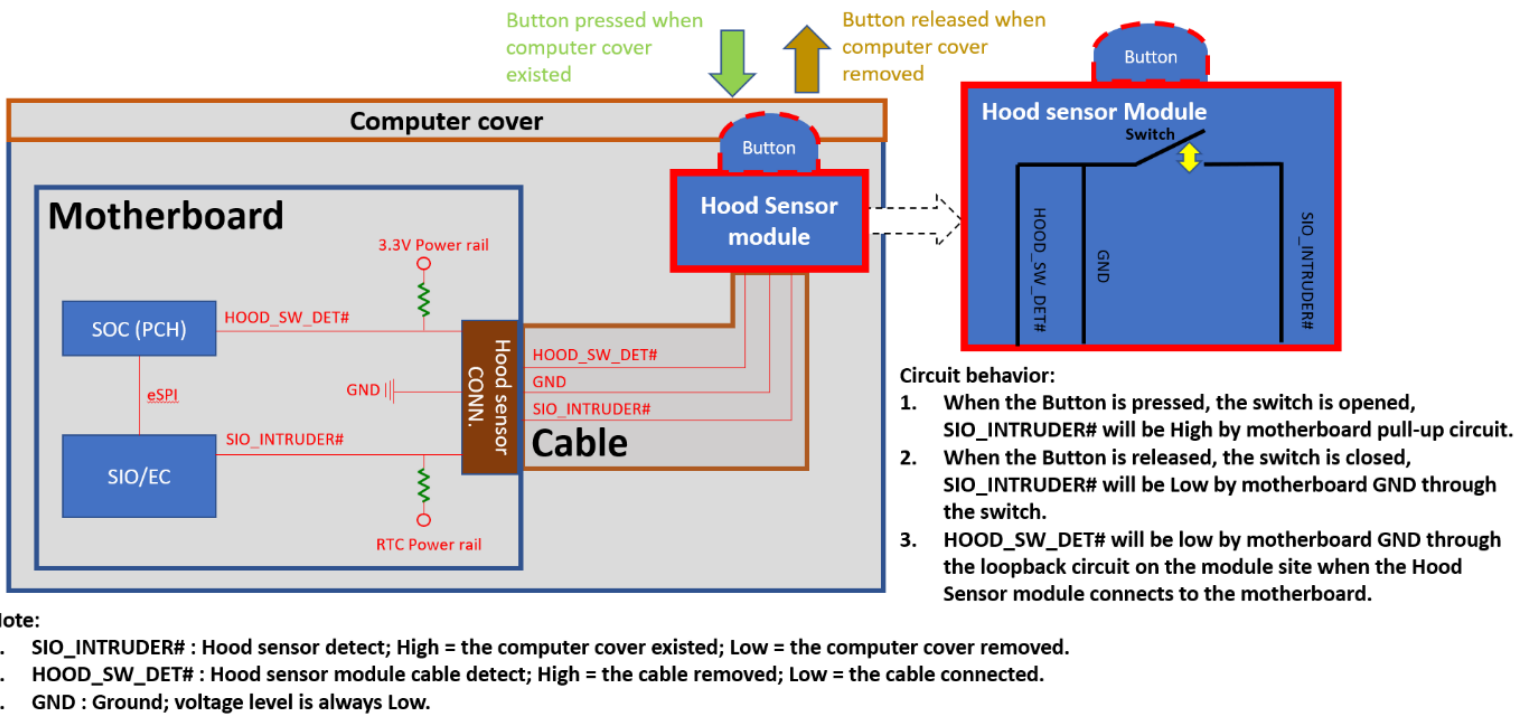

Fig. 1 Current Hood Sensor Protection Mechanism
- **Hardware mechanism (Fig. 1)**